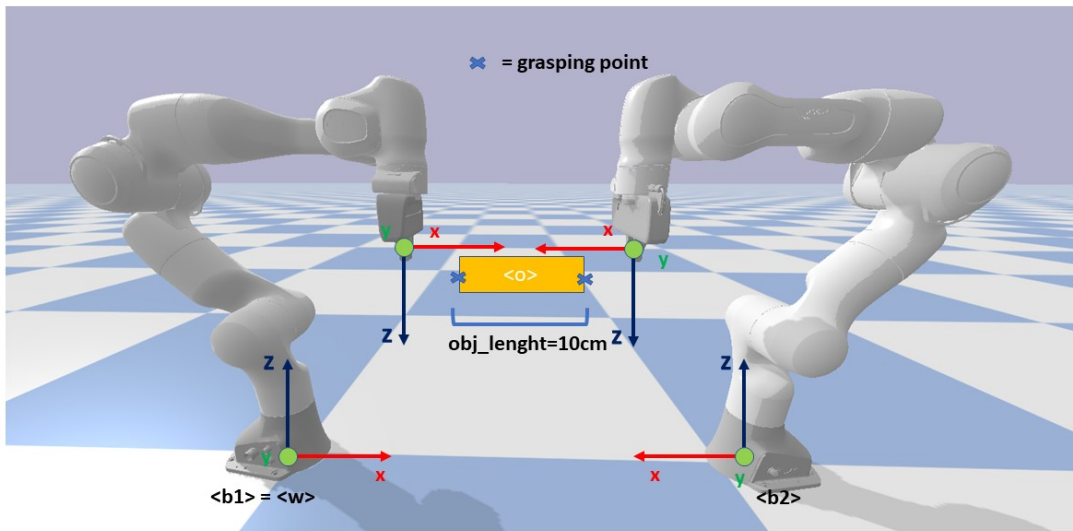

Figure 5: Tool frame positioning
3. The first objective is to move the tool frame of both manipulators to the grasping points. Define the tool goal frame such that the robot grasps the object at the closest end. HINT: you need only the length of the object to define the grasping point, which is equal to 10 cm. See figure 5.